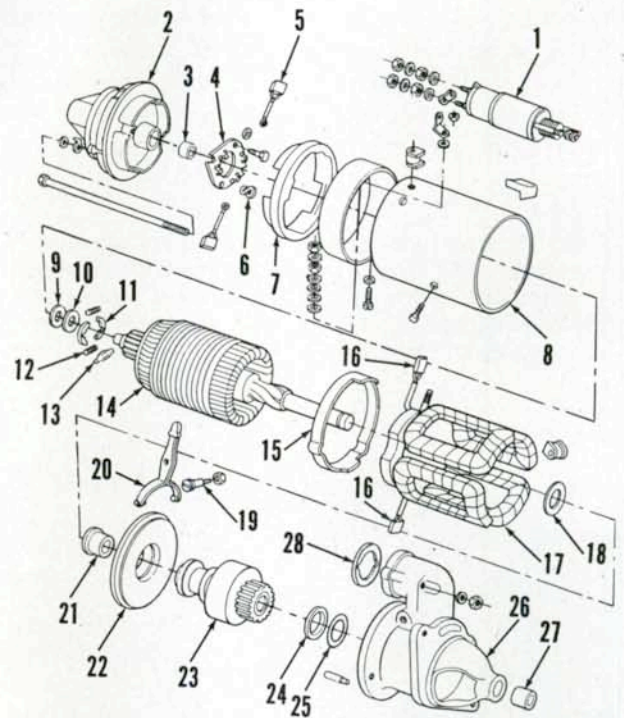

Fig. 155—Exploded view of starting motor assembly.
**109. OVERHAUL.** To disassemble starting motor, remove two screws attaching brush holder (4—Fig. 155) to end cover (2). Remove through-bolts, then remove end cover and seal (7) from starter housing (8). Remove brush holder from the commutator. Remove solenoid assembly (1). Remove drive lever pivot pin (19), then withdraw drive end housing (26) and drive lever (20). Remove armature (14), center bearing plate (22) and drive assembly (23) from starter housing.
To reassemble starting motor, reverse the disassembly procedure while noting the following special instructions: When renewing the self-lubricating bronze bushings, new bushings should be soaked in light engine oil at room temperature for 24 hours prior to installation. Do not ream the bushings after installation as the self-lubricating properties will be damaged. Armature shaft end play is adjusted by installing shims (18—Fig. 155) as required between armature core and center bearing plate.